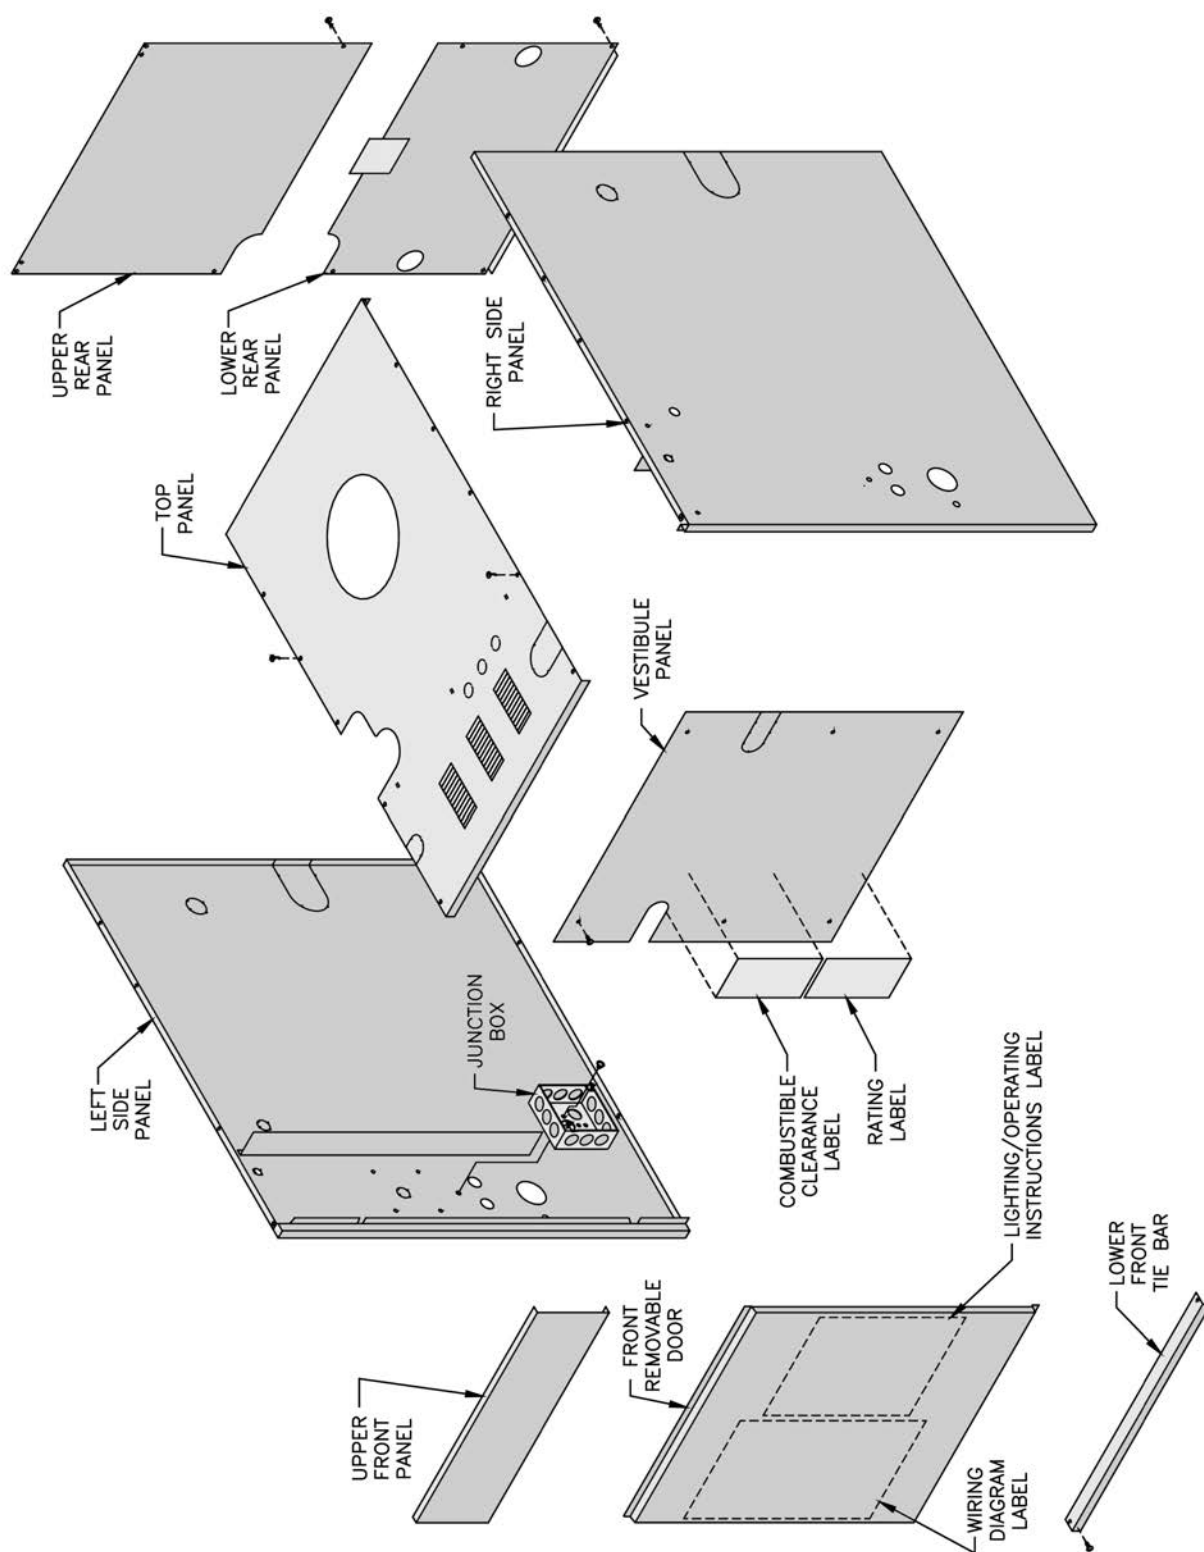

Figure 8: Jacket Assembly
**N. Install Jacket.** See Figure 8.
4. Attach Upper Rear Panel to Lower Rear Panel. Do not install three (3) upper screws.
**O. Install Junction Box.** See Figure 8. Attach junction box to inside of Left Side Panel with ¼" - 20 x ¼" lg. machine screw (located in Combination Boiler Parts and Control Carton).
- a. Attach Ignition Control Mounting Bracket to Jacket Vestibule Panel using two (2) #8 x 1/2" sheet metal screws.
- b. Attach Johnson Ignition Module to Mounting Bracket using two (2) #6 x 3/4" sheet metal screws or attach Honeywell Ignition Module to Mounting Bracket using two (2) #8 x 1/2" sheet metal screws.
4. Mount Transformer (continuous circulation) or Control Center (intermittent circulation) to Junction Box. See Figure 8.